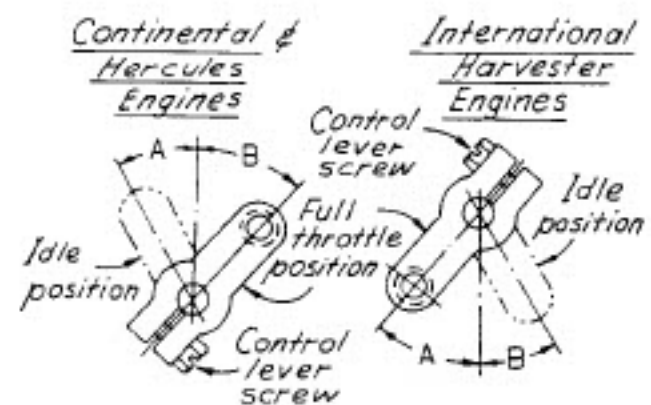

FIGURE 4 — Throttle Control Lever
#### THROTTLE CONTROL LEVER (Figures 4 and 5)
The control lever screw holds the throttle control lever (C) onto the throttle shaft (D). Check the lever and screw for tightness. If they are tight, leave them alone. If they are loose or if you suspect the lever has slipped in its position on the shaft, loosen the control lever screw and reset the lever so angle A equals angle B in Figure 4. This angle should be about 35°. **NOTE:** This lever is not adjustable on the G339 and G3400 engines.